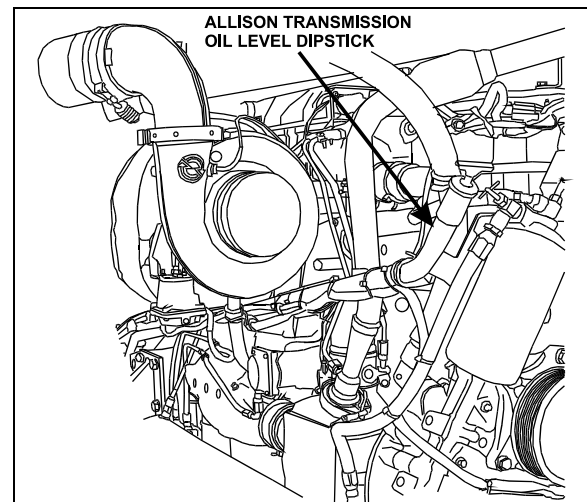

FIGURE 4: OIL LEVEL DIPSTICK (AUTO. TRANS.) 07033
To gain access to the dipstick, open the engine compartment rear doors; dipstick is located on the radiator side of the engine (Fig. 4).
4. Insert the dipstick into the tube and then remove, checking the oil level reading (Fig. 4). Repeat the check procedure to verify the reading. If the oil reading is within the "Cold Run" band, the level is satisfactory for operating the transmission until the oil is hot enough to perform a "Hot Run" check.